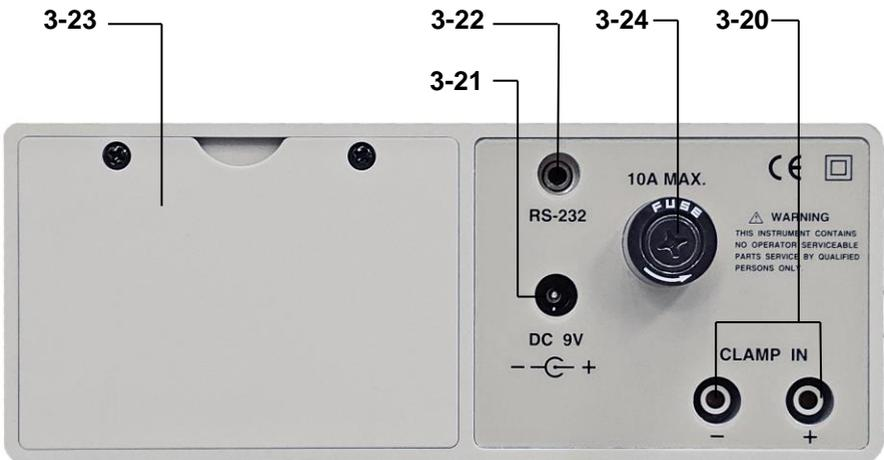

Fig.1
1. Push the "Power Switch" (3-2, Fig. 1) to "ON" position
2. Select the "AC/V/A/Watt-Switch" (3-3, Fig. 1)
3. Select the "Current In"-Switch (3-6, Fig. 1) to the "DIRECT"-position
4. Do not make any wire connection to the input terminals. If the watt display is not zero, push the "Whr-Zero Button" (3-8, Fig. 1) once, then watt display will show "0".
The "LCD Display" (3-1, Fig. 1) will show the Watt, Voltage, Current, PF (Power Factor) at the same time.
8. During the Watt measurement, push the "cos ϕ /PF/Hz Button" (3-9, Fig. 1) once, will show Line Frequency value instead of the PF value.
All the measuring procedures are same as the above "7.1-AC Watt/V/A/PF/Hz" measurement, except you should push the "Watt/VA/Whr Button" (3-7, Fig. 1) once, then the display will show the VA, voltage, current, Hz at the same time.
All the measuring procedures are same as the above "7.1-AC Watt/V/A/PF/Hz" measurement, except you should push the "Watt/VA/Whr Button" (3-7, Fig. 1) twice, then the display will show the Whr value along with the elapsed time.
- * The display of Whr measurement will stop (hold) when pushing the "Data Hold Button" (3-11, Fig. 1) once. Push the "Data Hold Button" once again for continuing the Whr function.
- * Press "Whr Zero" button (3 – 8, Fig.1) once will "reset (zero)" the Whr measuring value and make the new measurement again.
1. Push the "Power Switch" (3-2, Fig. 1) to "ON"-position.
2. Select the "AC V/A/Watt Switch" (3-3, Fig. 1).
3. Select the "Current In Select Switch" (3-6, Fig. 1) to the "DIRECT"-position.
- a) Connect red test lead to "V/Ohm Terminal" (3-17, Fig. 1) and black test lead to "COM Terminal" (3-18, Fig. 1)
- a) Connect red test lead to "Current (10 A) Terminal" (3-19, Fig 1) and black test lead to "COM Terminal" (3-18, Fig. 1)
2. Select the "DC V/A Switch" (3-4, Fig. 1)
3. Select the "Current In Select Switch" (3-6, Fig. 1) to the "DIRECT" position.
- a) Connect red test lead to "V/OHM Terminal" (3-17, Fig. 1) and black test lead to "COM Terminal" (3-18, Fig. 1)